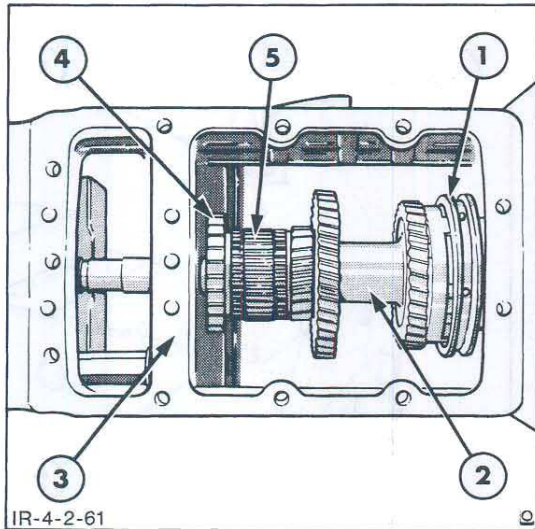

Figure 62
3. Install the rear input shaft into the transmission case and rest across the transmission case inner wall, Figure 62.